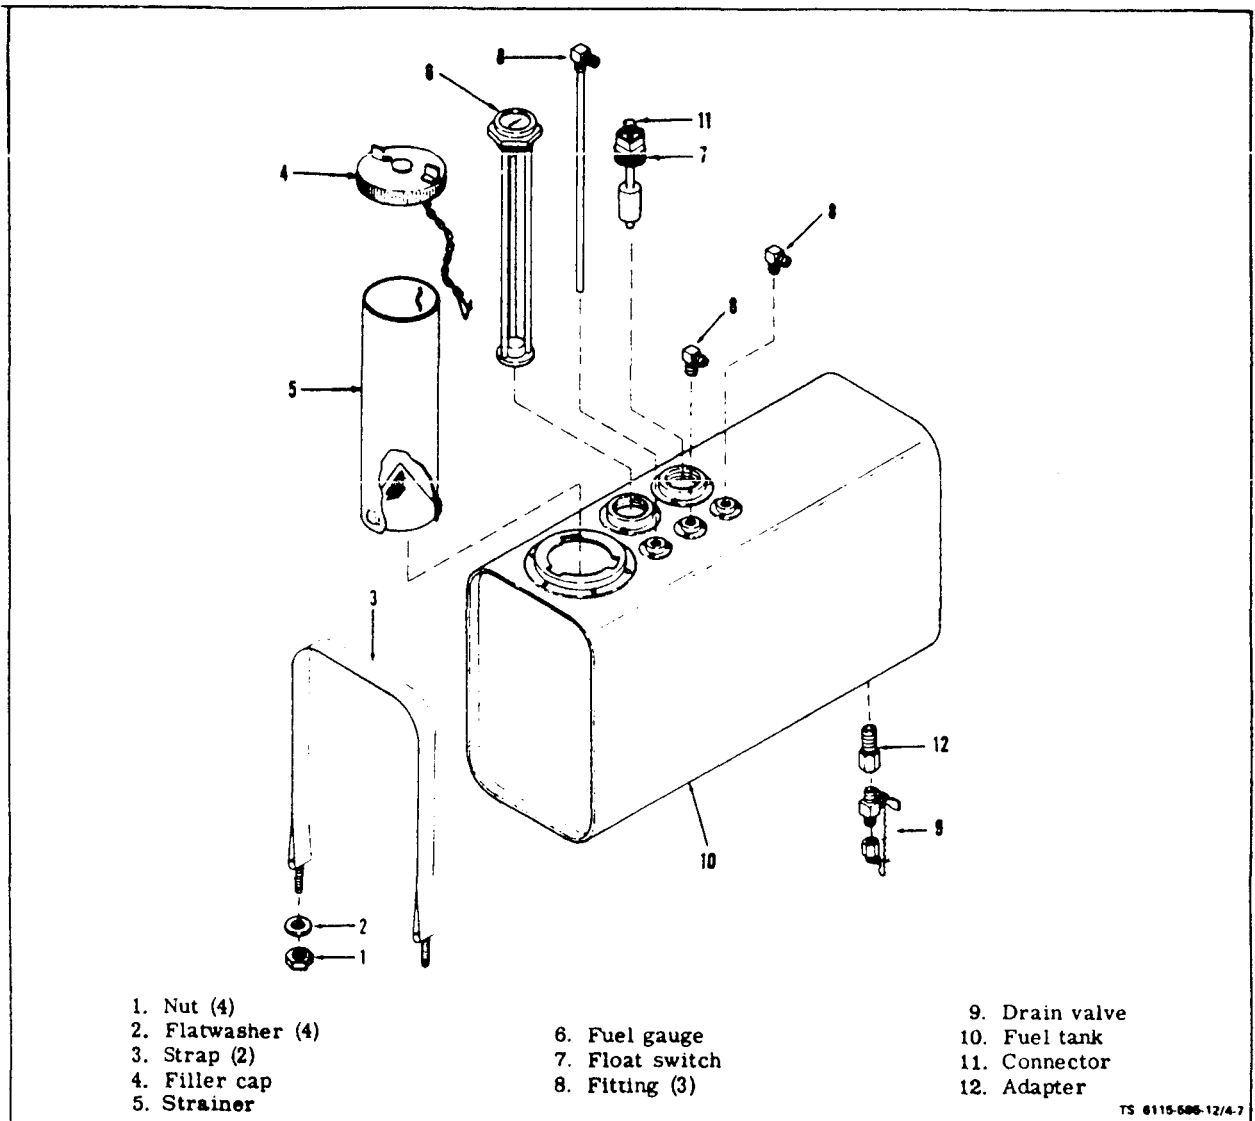

Figure 4-7. Fuel Tank Assembly
b. Removal (see figure 4-7). Drain fuel into suitable container by opening drain valve. Tag and disconnect fuel hoses from fuel tank fittings. Disconnect electrical lead from electrical connector (10). Remove nut (1) and flatwasher (2) from straps (3) on outside of fuel tank. Remove tank from skid-base. On ASK equipped generators, remove top panel, left panel and side closure assemblies (para. 5-4 and 5-5).
#### f. Reassembly (see figure 4-7).